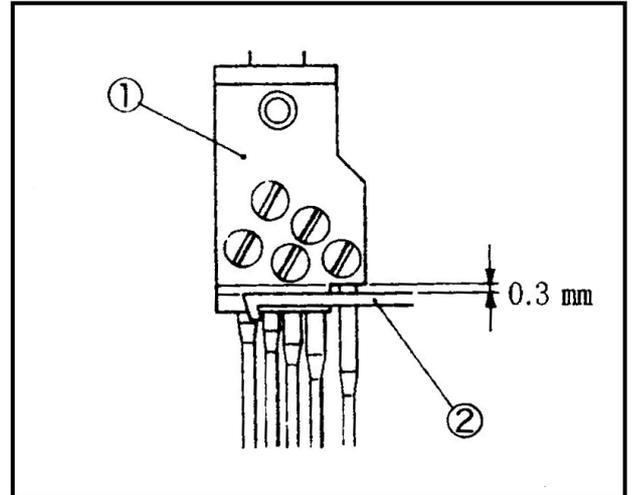

Fig.7
2. 當針柱在最低位置和壓腳完全抬舉時，針鉤①和上網線勾②需留間隙 0.3mm。(Fig.7)
2. As standard , make the clearance between the notch of the needle clamp ① and the top cover thread hook ② to 0.3mm when the needle bar is at the lowest point and the presser foot is raised by pressing the presser foot pedal fully. (Fig. 7)